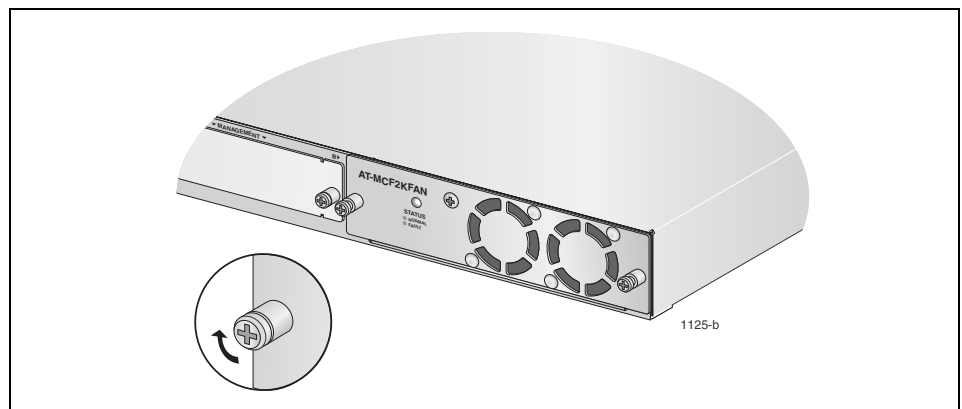

Figure 49. Securing the AT-MCF2KFAN Fan Module
4. Secure the fan module to the chassis by tightening the two captive screws on the module using a cross-head screwdriver. Refer to Figure 49.